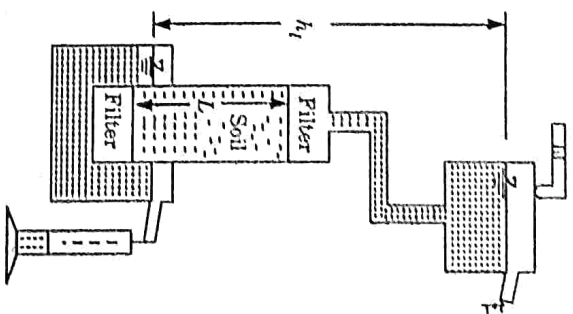

Fig. 2.8.1
- ii. Fig. 2.8.1 shows the arrangement in which the flow is one-dimensional and in downward direction.